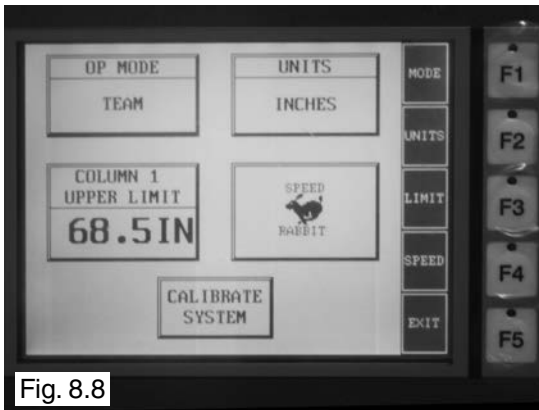
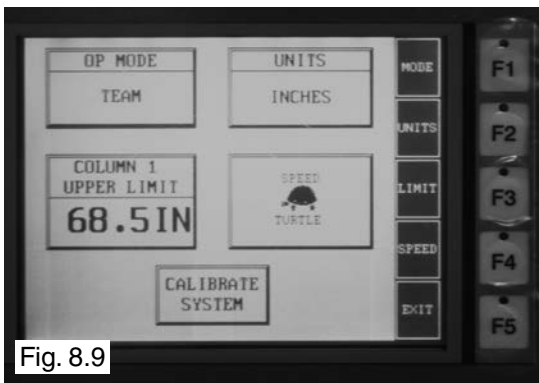

Fig. 8.8
Fig. 8.9
9. Pressing **SPEED** or F4 allows the operator to change the speed at which the lift will lower when the DOWN button is pressed. Rabbit mode (See Fig 8.8) allows for a quicker descent while Turtle mode (See Fig 8.9) allows for a slower, more precise descent.